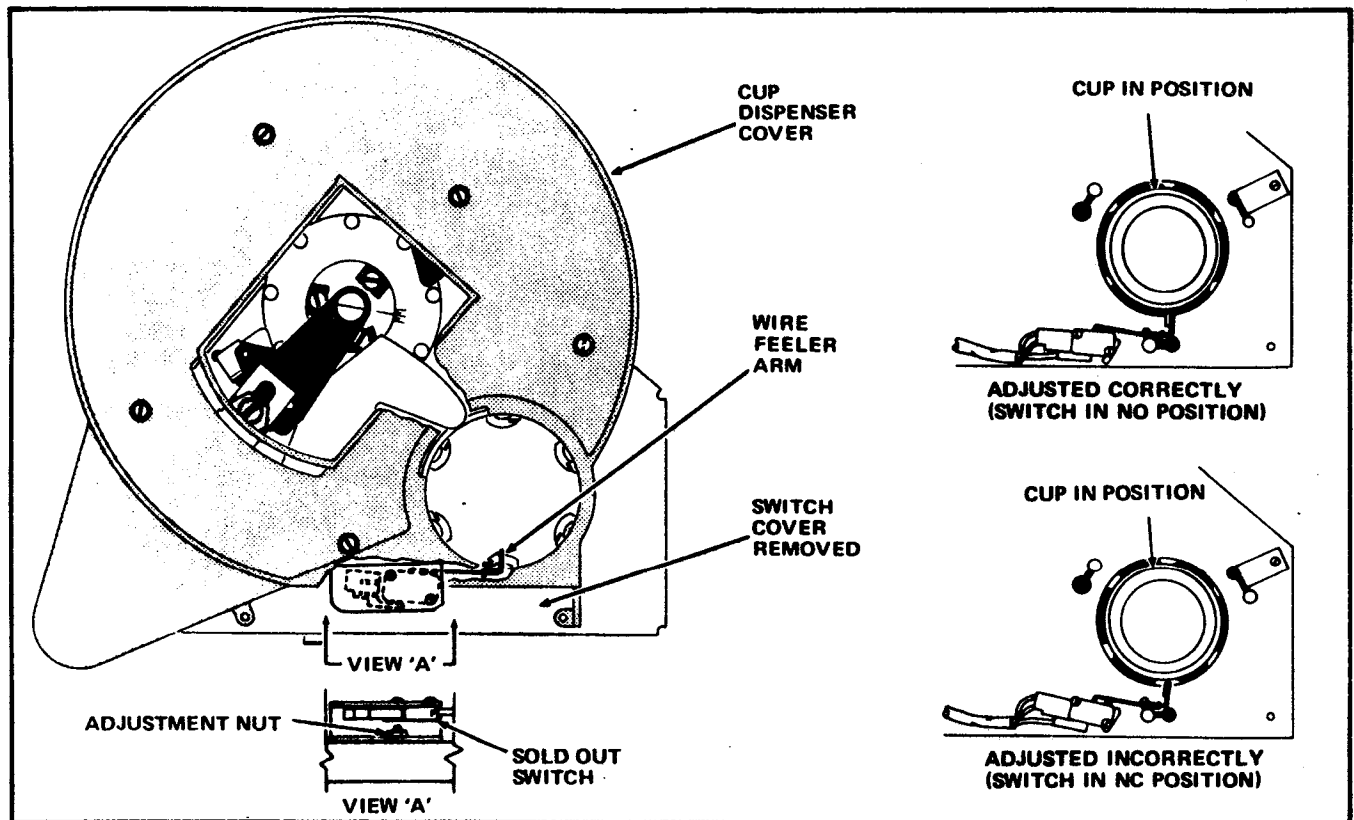

Figure 3-10. Sold-Out Switch Adjustment
2. Remove two screws and lift off the Switch Cover. See Figure 3-10.
3. Loosen the two Nut attaching the Sold-Out Switch and Bracket Assembly to the Cup Dispenser and move the Switch and Bracket Assembly away from the Cup Drop Ring opening. The Display should read NO CUPS. See Figure 3-10.
5. Move the SOLD OUT Switch and Bracket Assembly toward the cup stack until the Wire Feeler Arm contacts the cups and an audible click is heard from the switch. The Display should read normally. See Figure 3-10.